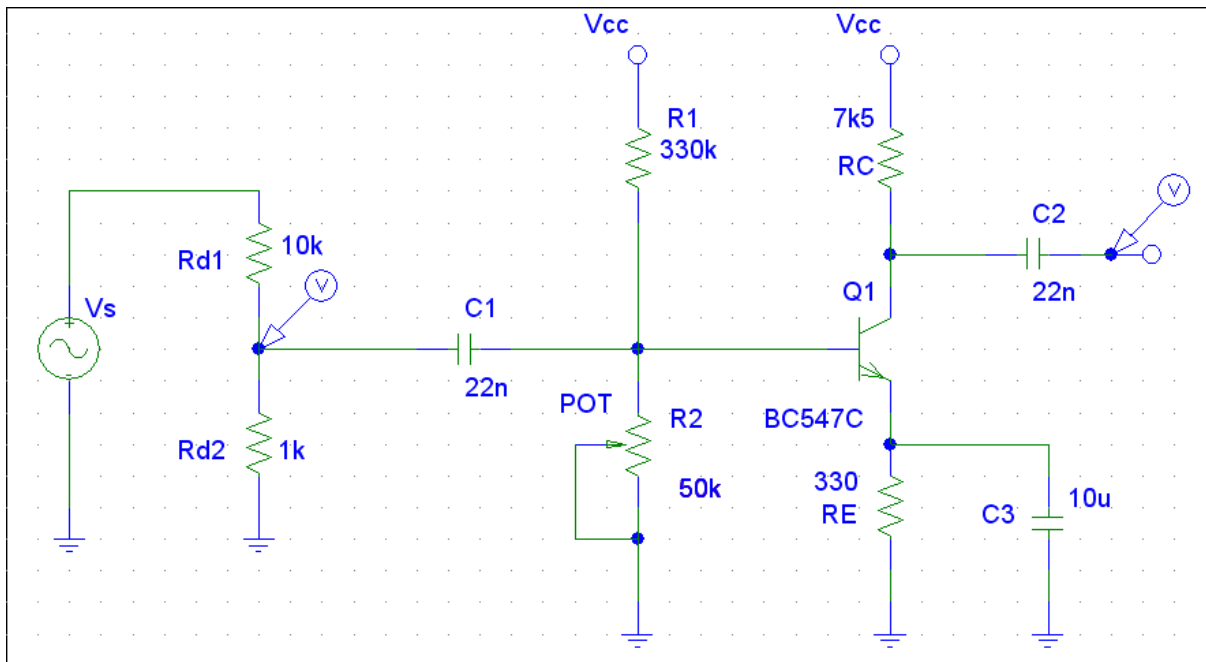

Fig. 4 BJT common-emitter amplifier with positive feedback for DC.
1. Solder circuit illustrated in fig. 4.
6. Set the oscilloscope window to observe the input and output voltage  $V_{IN}$  and  $V_{OUT}$ . Set the cursors to calculate the amplification  $A_v$  of the circuit from fig. 4.